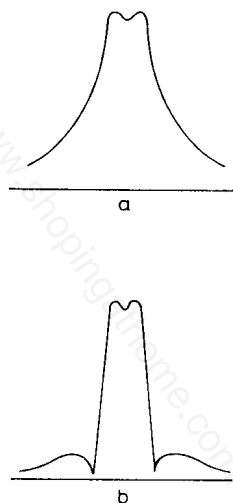

Fig.2.4.1 Receiver I.F. Alignment Response Curves
- (2) Adjust the primary and secondary cores of TR1, TR2 and TR3 for maximum amplitude, reducing the signal input as necessary to prevent overload.
- (3) Reduce signal input bandwidth to 10 kc/s. Adjust C106 for symmetrical curve as shown in Fig.2.4.1.a
- (4) Retune secondary core of TR2 to reduce curve saddle to minimum
- (5) Retune cores of FL3 to maintain symmetrical response.
- (6) Adjust C107 to give correct bandwidth and then repeat instructions (4) and (5).
- (7) Set SELECTIVITY switch at VN and adjust C102 for maximum amplitude.